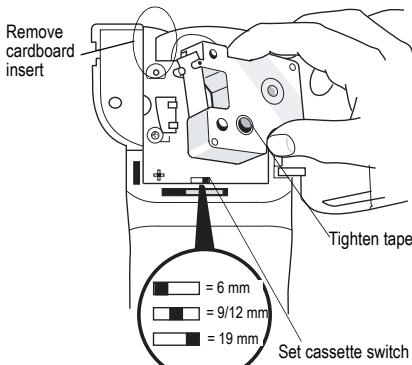

Figure 3
The first time you use the printer, remove the protective cardboard insert from between the print head and pinch roller. See Figure 3.
2. Set the cassette switch for the size of the tape cassette that you are inserting. See Figure 3. A notch in the cassette fits over the switch when the cassette is in the correct position.